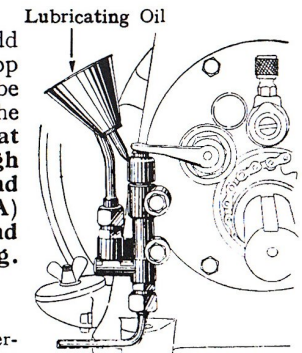
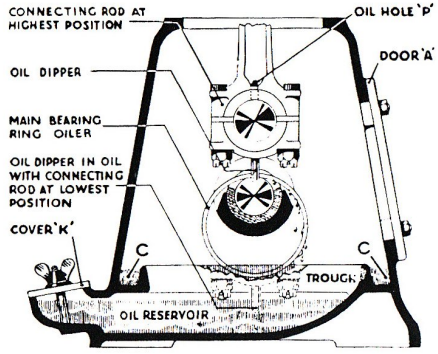
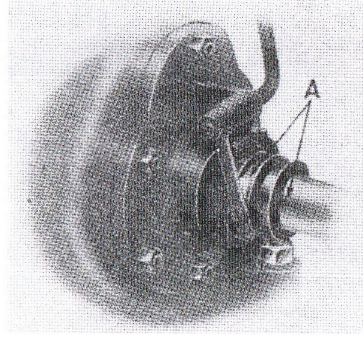
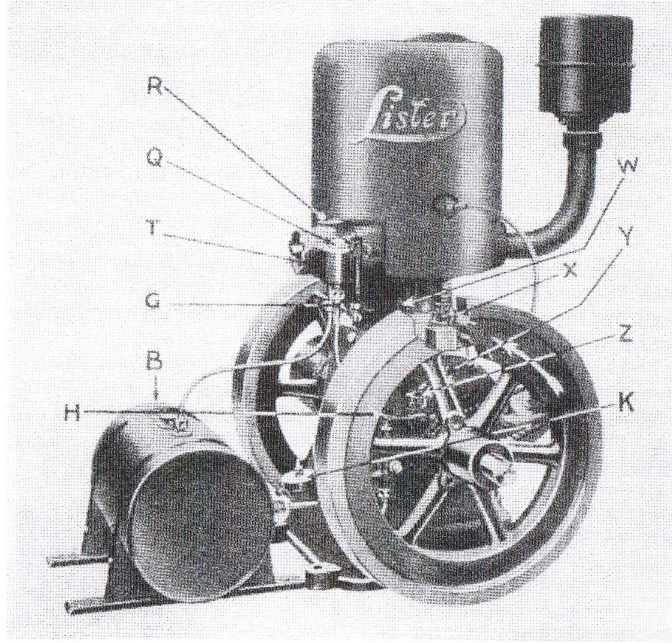

Fig. 3a.
Fig. 1.—Cross Section through Crankcase
Fig. 2.—Governor Quadrant
Fig. 3.
1. Remove Inspection Door: Oil Connecting Rod Big End Bearing both sides. Fig. 1 "P."
2. Fill Trough until it overflows (replace door). Fig. 1 "A."
3. Through Lubricator Hole: Oil Intermediate and Pump Spindles. Fig. 3 "Z"
4. Oil Governor Quadrant Fig. 2 "A"
5. Oil Pump Plunger. Fig. 3 a.
6. Remove Oil Filler "K" Fill up Reservoir until oil (about 1½ pints) reaches edge of filler. Fig. 1 & 3 "K."
7. Give Greaser on end of Camshaft one turn and refill frequently. Fig. 3a.
Occasionally remove cover of oil filler (K) and add sufficient lubricating oil to fill up filler "K" to the top (see Fig. 1). On no account must the oil level be allowed to fall so low that you can see the bottom of the filler. **Using oil can, put a little oil on the tappets at (W) (Fig. 3), also on the governor sleeve through the hole in the top of the bearing housing, and well lubricate governor quadrant at position (A) (Fig. 2), all the Governor outside connections and put a few drops of oil on fuel pump plunger (Fig. 3a).** Re-fill small greaser on end of camshaft.